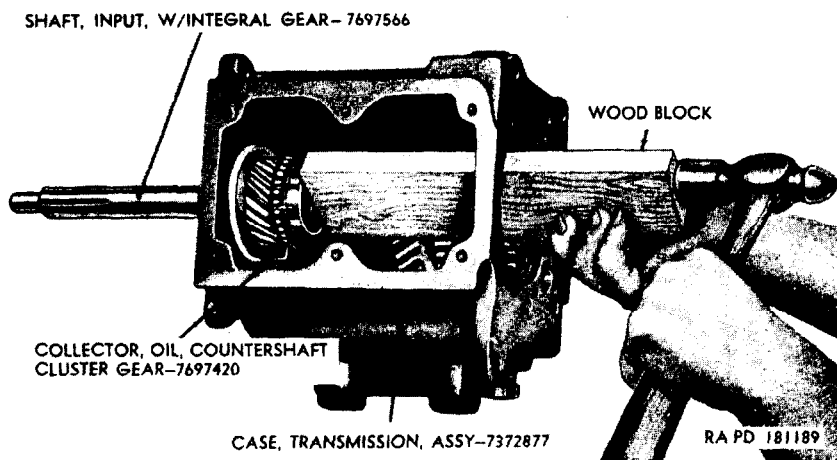

Figure 53. Removing input shaft with integral gear.
a. *Remove Input Shaft With Integral Gear* (fig. 53). Using a suitable block of wood, tap the input shaft with integral gear out of the